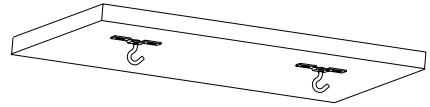

Figure 11
2. For mounting on a solid stone / concrete surface, please use heavy-duty dowels (j) or plastic dowels (h). Determine the suitable position for mounting the hook dowel or ceiling hook plate (f). Draw a straight line to install the two hooks in the same alignment. (see Fig. 11)